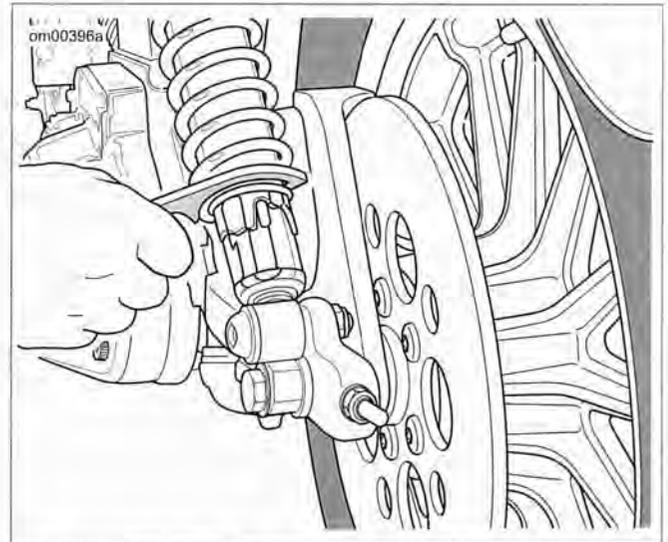

Figure 1-71. Shock Absorber Preload Adjustment: XL Models
**XL Models:** See Figure 1-71. Using SHOCK ADJUSTMENT SPANNER (Part No. 94448-82B), turn the adjustment cam to specification.